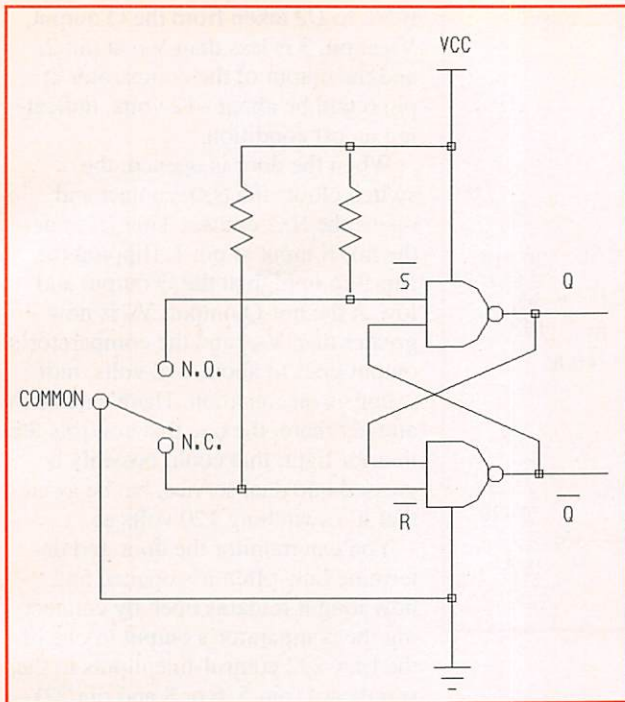

Fig. 3. Switch contacts can be conditioned ("debounced") with cross coupled NAND gates from a quad package like the SN7400, CD4011 or similar gate chip.
• **Switch Bounce.** Mechanical switch contacts normally bounce for a few milliseconds after closure. This repeated make-and-break contact can produce multiple signals that play havoc with input circuits by false triggering or inaccurate counts. Switch contacts can be conditioned ("debounced") as shown in Fig. 3 with a pair of cross-coupled NAND gates from a quad package like the SN7400, CD4011 or similar gate chip.
The two pull-up resistors in Fig. 3 hold the inputs high until grounded by the switch (pulled low). A set flip-flop isn't affected by additional set signals. When reset, it isn't affected by additional reset signals, which prevents multiple switch (bouncing) signals from reaching the output.